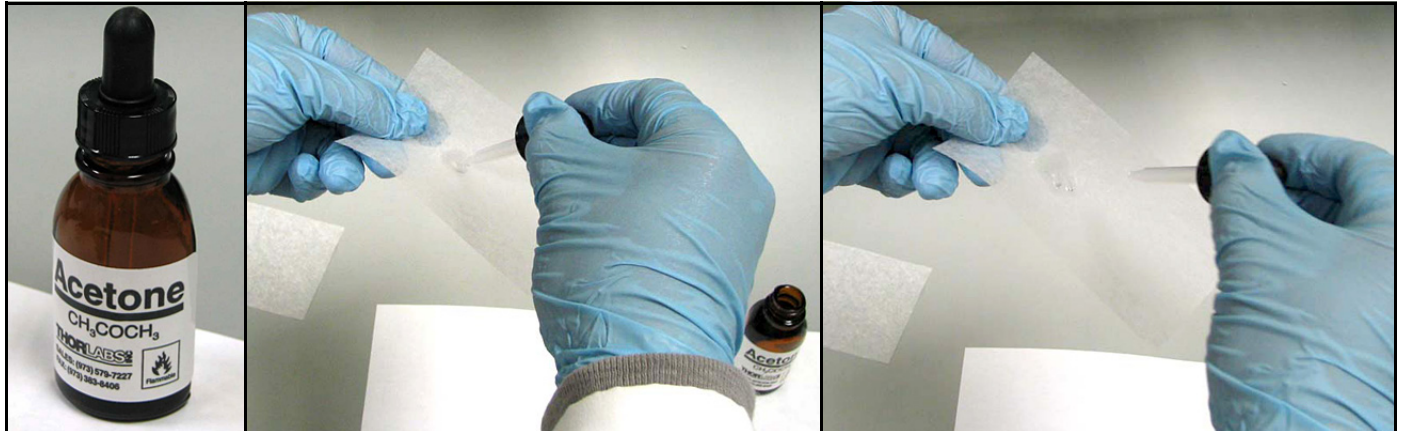

Figure 83: Using Analytical Grade Acetone
- Using a piece of lens tissue, wet a small area with a very small amount of **analytical grade acetone** (barely wet the lens tissue). Typically, one drop of acetone will suffice. Tilt the lens tissue so that the acetone drop is absorbed by the lens paper along the length of the piece (see *Figure 83* below).
6. Using a piece of lens tissue, wet a small area with a very small amount of analytical grade acetone (barely wetting the lens tissue). Typically, one drop of acetone will suffice. Tilt the lens tissue so that the acetone drop is absorbed by the lens paper along the length of the piece (see *Figure 83 on page 103* and *Figure 89* below).